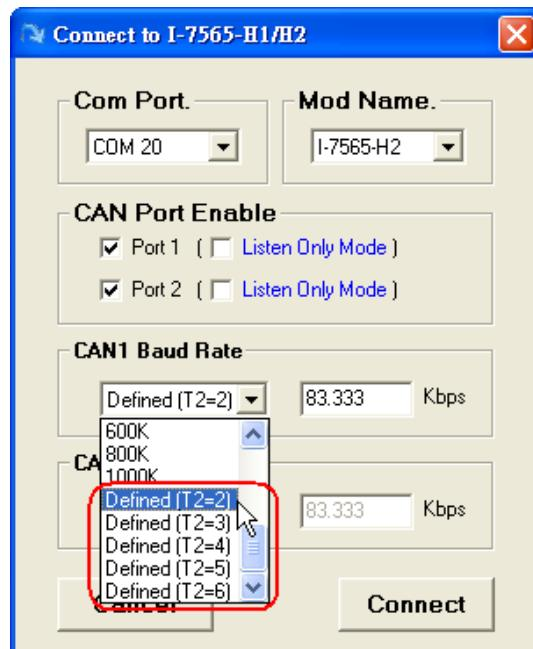

Figure 7-14-1 Adjust "T2"
- (1) Adjustable Bit-Timing parameter, Tseg2 value, of CAN baud rate like Figure 7-14-1.